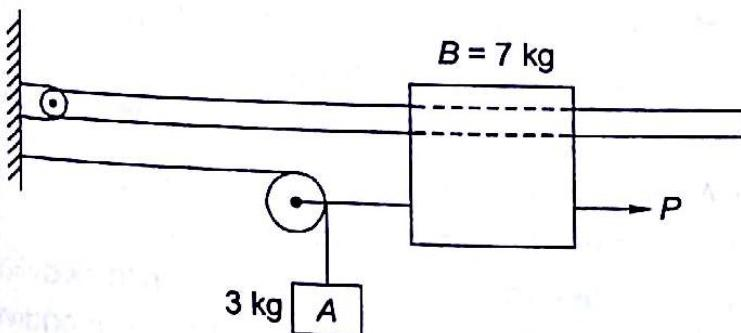

Fig. 15.18
15.2 System shown in the Fig. 15.18 is initially at rest. Neglecting friction determine force P required if velocity of collar B becomes 4 m/s in 2 seconds, after start. What is tension in the cable at the end of which 3 kg mass is suspended.